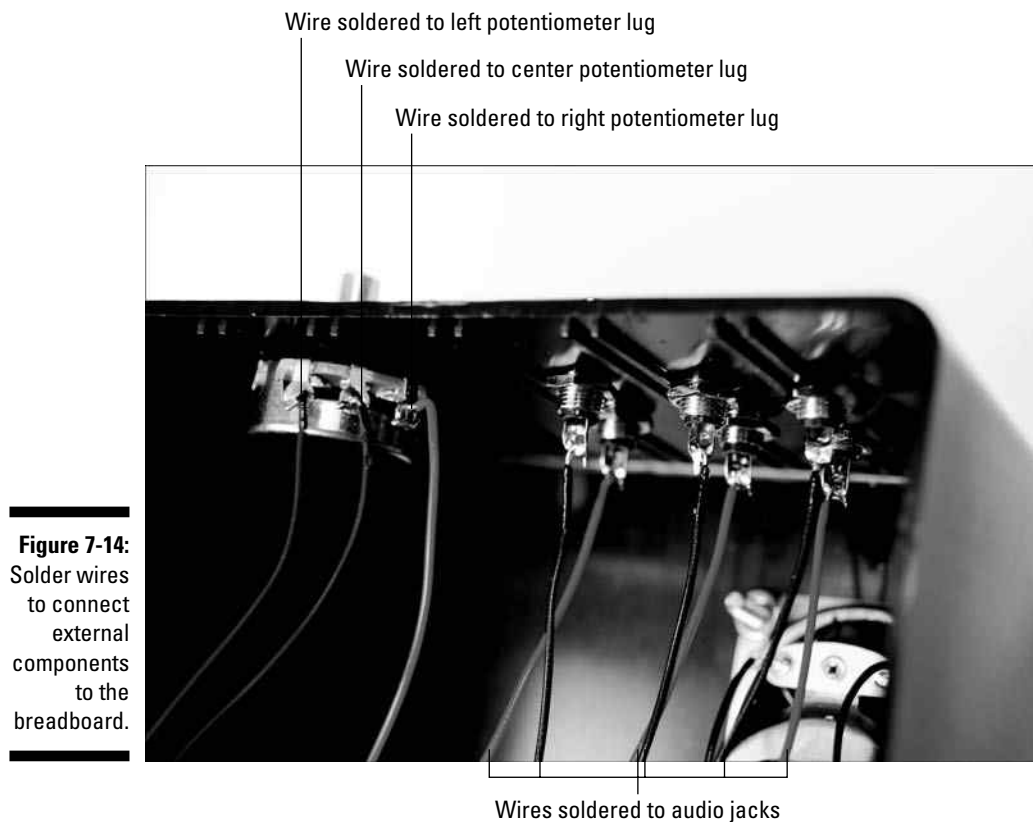

Figure 7-14:
7. **Solder an 8" wire to each of the three potentiometer lugs, as shown Figure 7-14.**
8. **Connect 8" wires to each of the audio jacks and solder them, as shown in Figure 7-14.**